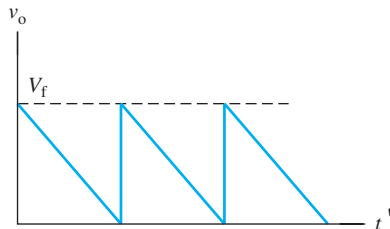

FIGURE P5.17 The sawtooth wave for Problem 5.17.
5.17 (H) Given the circuit shown in Figure P5.13, assume that you are provided with an extra voltage source supplying v_f . Use these components to design and sketch a new circuit that can generate a voltage waveform v_o as shown in Figure P5.17.